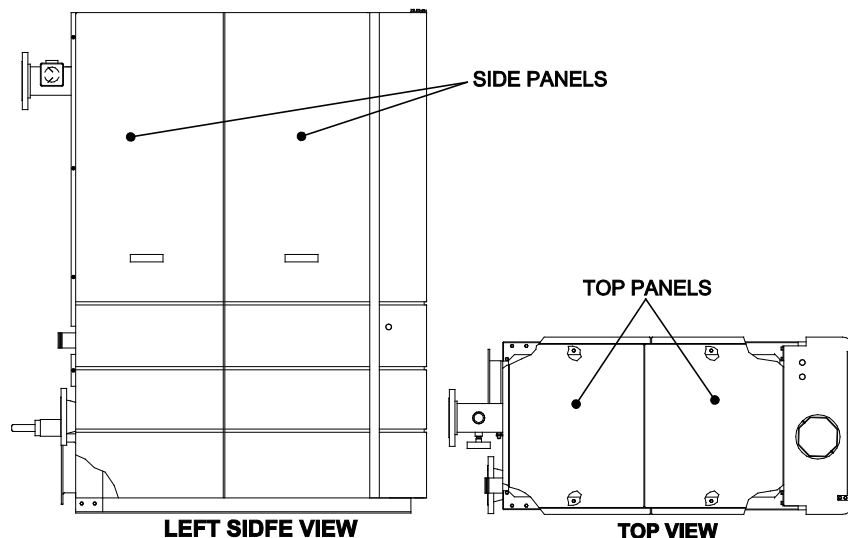

Figure 1: Benchmark 2.0LN (Venturi Design) Boiler Cover Locations
5. Refer to Figure 1 and remove the top and side panels of the unit.